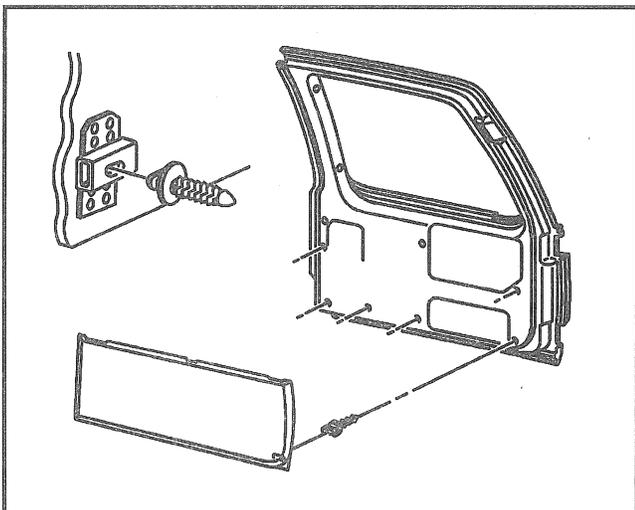

Figure 90—Rear Side Door Lock Actuator Wiring Connector and rivets
↔ Remove or Disconnect (Figures 90 and 91)
4. Actuator lock control rod (1) (Figure 90).
↔ Install or Connect (Figures 90 and 91)
2. Actuator lock control rod (1) (Figure 90).